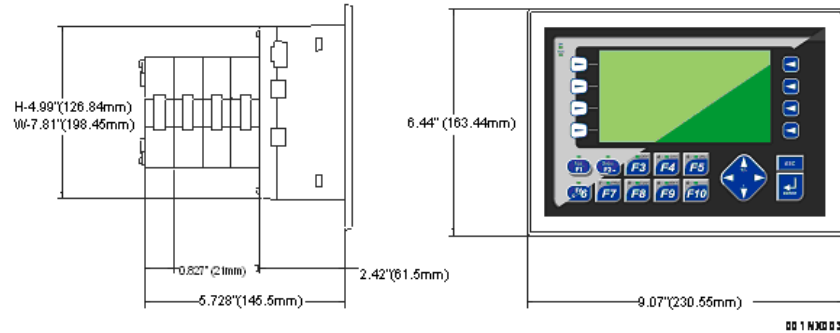
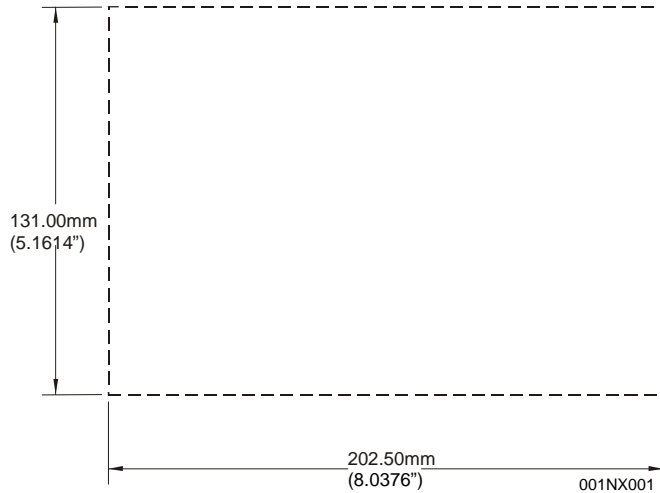

Figure 1 – Dimensions for the NX (NX25x is shown but dimensions apply to all NX Models)
Figure 2 – Panel Cut-Out for the NX
- I. Per the specifications of **Figure 1** and **Figure 2** – carefully prepare the panel cutout. Make sure the corners of the cutout are square and free from burrs.